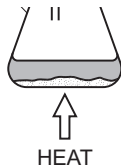

Fig. 1.1
Fig. 1.1 shows the apparatus used to make and collect a sample of chlorine gas.
There is **one** error in the way the apparatus has been set up in Fig. 1.1.
- (a) Name the item of apparatus labelled **X** in Fig. 1.1.
(b) Identify the substance labelled **Y** in Fig. 1.1.
(c) Name an item of apparatus that can be used to heat **X** in Fig. 1.1.
Describe a change that needs to be made to the apparatus in Fig. 1.1 to correct this error.